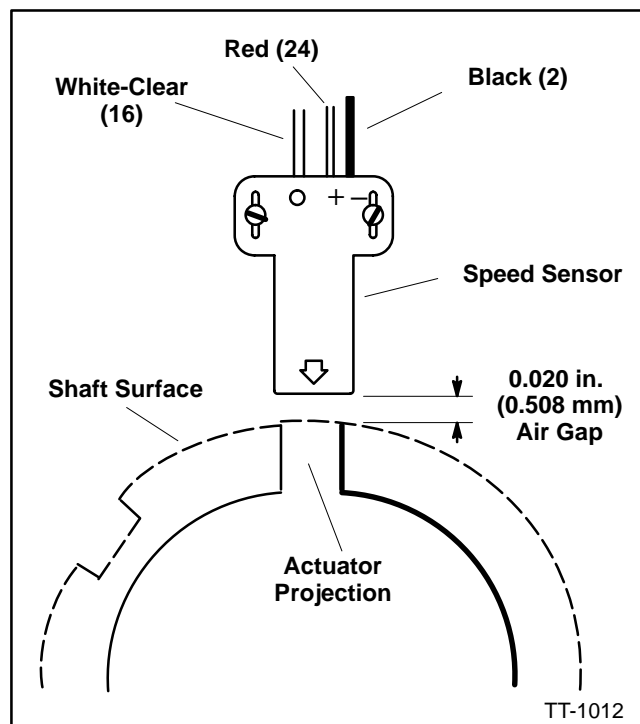

Figure 14. Speed Sensor Air Gap
20. Reconnect speed sensor leads. Set speed sensor air gap to 0.020 in. (0.5 mm). See Figure 14.